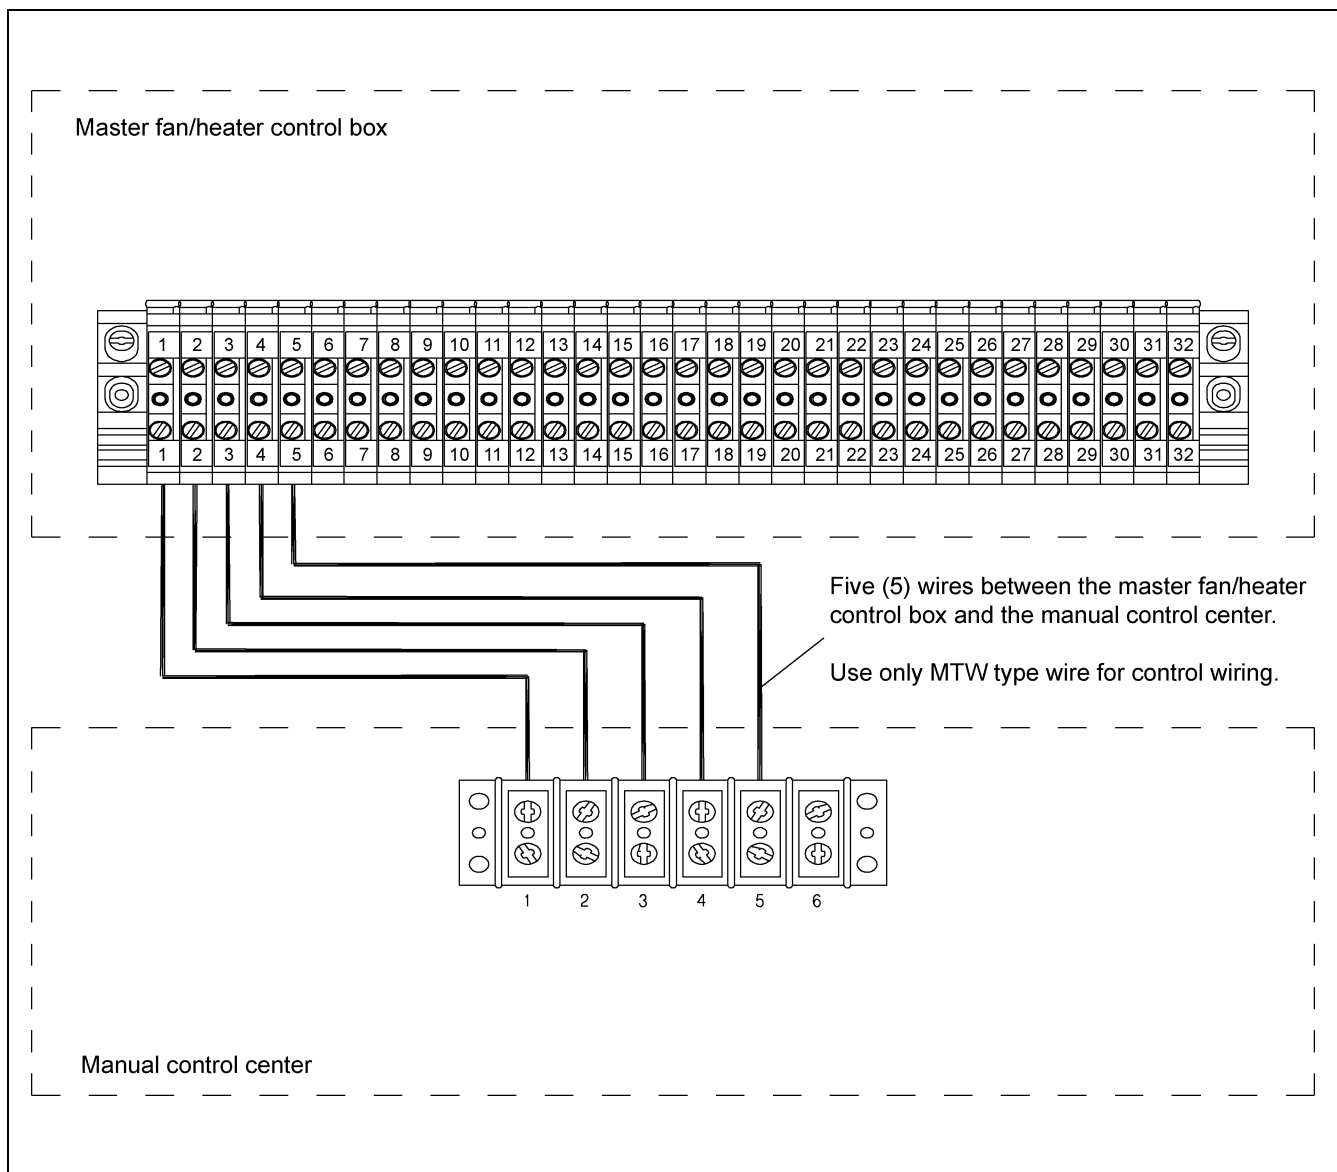

Figure 4F *Wiring for the Manual Control Center to the Master Fan/Heater Unit*
1. Run five (5) 16 gauge MTW/THHN type wires from the manual control center to the master fan/heater unit.
2. Connect the wires as shown in Figure 4F.